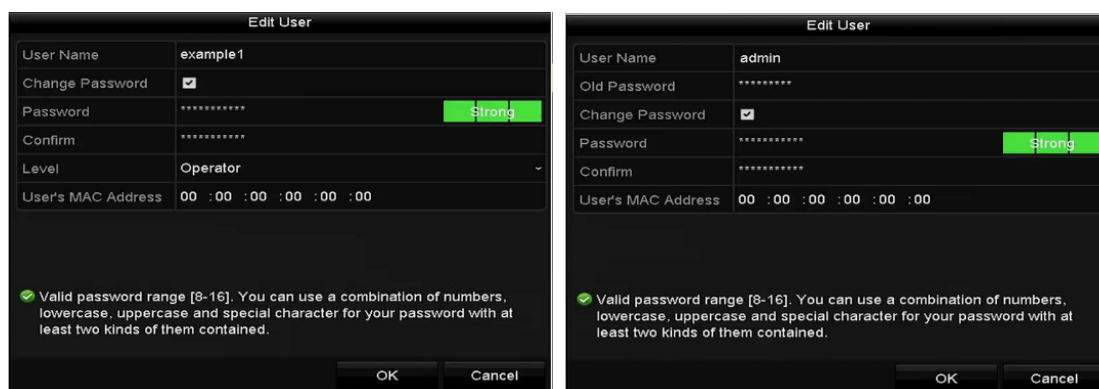

Figure 15. 9 Edit User Interface
3. Click the icon to enter the Edit User interface, as shown in Figure 15. 9.